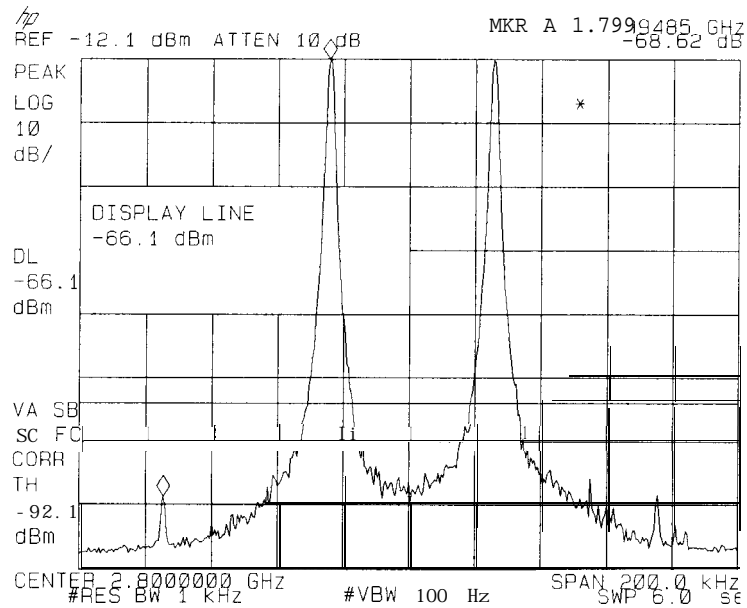

Figure 2-59. Third Order Intermodulation Distortion
44. The third-order intermodulation distortion products should appear 50 kHz below the lower frequency signal and 50 kHz above the higher frequency signal. Their amplitude should be less than the display line. See Figure 2-59.
The third-order intermodulation distortion products should appear 50 kHz below the lower frequency signal and 50 kHz above the higher frequency signal. Their amplitude should be less than the display line. See Figure 2-59.